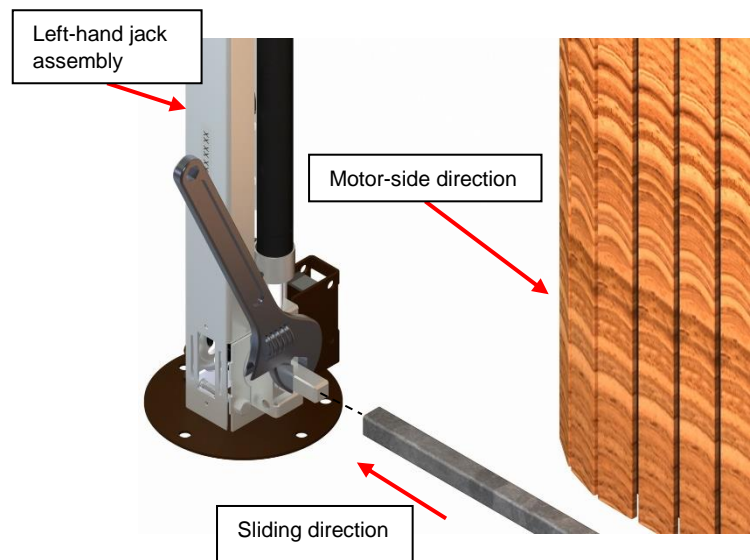

Figure 48
10) Hold the left-hand non-motor-side jack assembly upright and in line with the left drive shaft. Use a 3/4" adjustable wrench to carefully rotate the square shaft of the jack so it aligns with the drive shaft. (Figure 48)